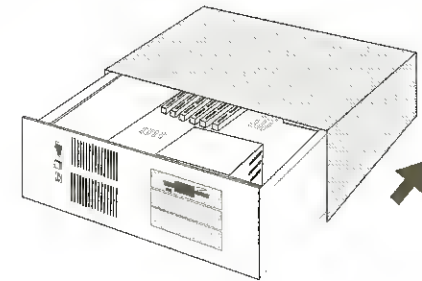

Figure 2-4: Remove system cover.
3. Remove the cover from your system (see Figure 2-4).